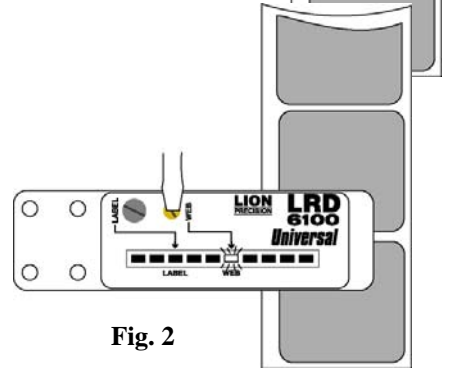

Fig. 2
4. *Slowly* pass labels through the sensor. The SETUP INDICATOR will move in response to the labels and gaps. (Fig.2, 3)
5. If necessary, use the WEB adjustment to assure the WEB indicator light is on while the label gap passes under the sensor. (Fig. 2)